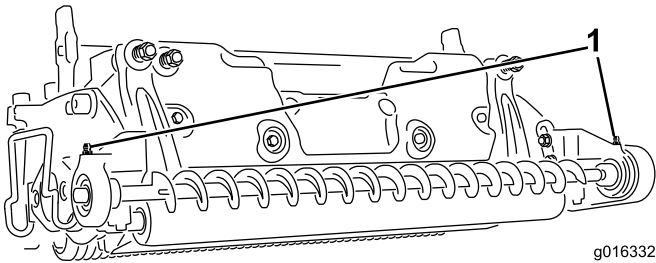

Figure 24
2. Wipe the grease fitting clean so foreign matter cannot be forced into the bearing or bushing; see Figure 24.